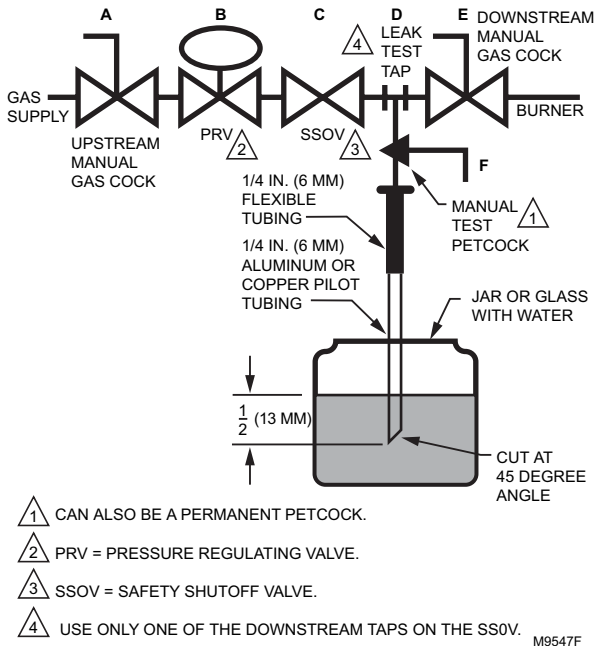

Fig. 7. Valve leak test.
7. Make electrical connections as shown in Fig. 7 and 8.
Valve Leak Test (See Fig. 7)